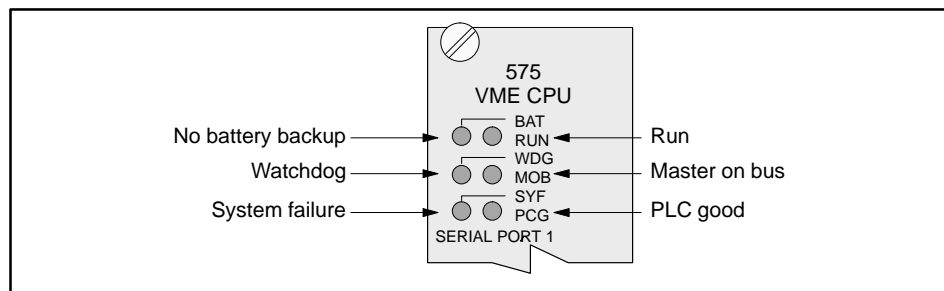

Figure 4-19 Location of the CPU LEDs
5. Reconnect the battery after the PCG LED lights up on the 575 system controller; that is, when the LED on the bottom right-hand side turns on. See Figure 4-19 for the location of the LEDs.
7. Reconnect the battery after the PCG LED lights up on the 575 system controller; that is, when the LED on the bottom right-hand side turns on. See Figure 4-19 for the location of the LEDs.
7. Update the battery status after the PCG LED lights up on the 575 system controller; that is, when the LED on the bottom right-hand side turns on. See Figure 4-19 for the location of the LEDs.
7. The primary 575 asserts SYSFAIL*. The SYF LED lights up on the primary 575. (See Figure 4-19 for the location of the LEDs.) This allows you to reload the replaced CPU prior to starting control from other CPUs.